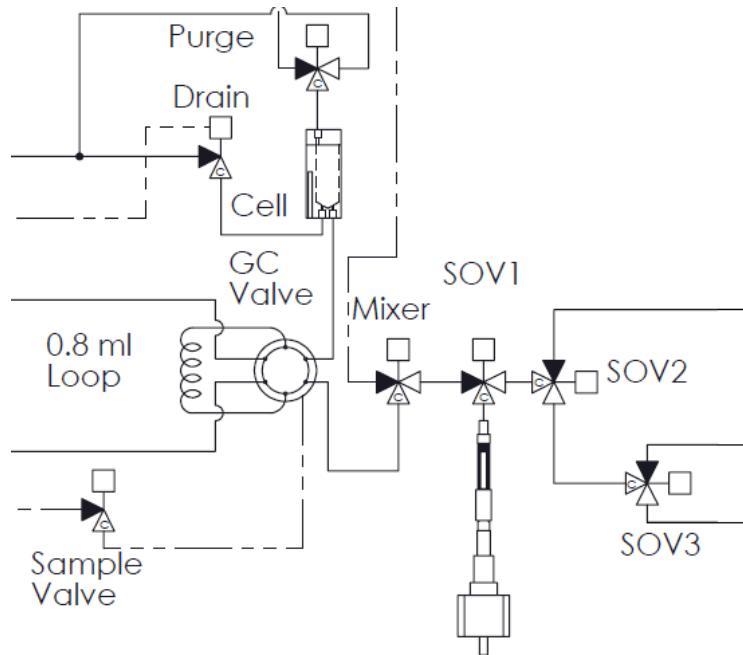

Figure 6-1: Internal Solenoid Valves
- Sample Valve* – allows you to activate (ON) and deactivate (OFF) the sample loop;
- Xylene SOV1* – controls the flow of sample and solvent to the syringe (OFF = from solvent lines; ON = to detection cell. See Figure 6-1.
- Alcohol SOV2* – controls the flow of alcohol and/or xylene and naphtha to the Xylene SOV1 solenoid valve. See Figure 6-1.
- Drain Valve* – allows you to open (ON) and close (OFF) the drain solenoid.